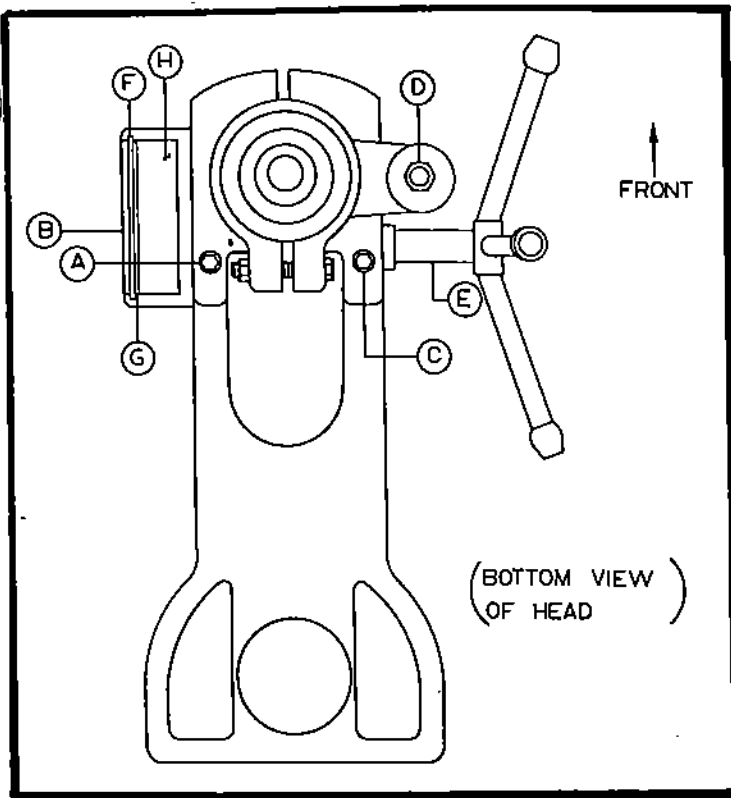

Figure 7
Spring tension for return of spindle, after hole drilling, has been pre-set at the factory. No further adjustment should be attempted unless absolutely necessary. Adjustment will probably be required if a multiple spindle drilling or tapping head is used. If adjustment is necessary, loosen lock screw (A) (Fig. 7) while holding quill spring housing (B). Do not allow the housing to turn in your hand, or spring will unwind. Turn entire housing assembly clockwise the number of turns necessary to cause the quill to return to its up position. (NOTE: The flat of the spring housing pilot is lined up with the spring loading hole on the body of the spring housing.) Reset lock screw (A), make sure point of screw mates to flat on the housing journal.
1. Hold quill return spring housing (B) in left hand (see Fig. 7) and loosen lock screw (A). Let spring unwind slowly, by allowing can to turn in hand.
1. Loosen setscrew in collar (A) to reach this screw, insert a 5/32" Allen wrench through hole (B) in top of quill.
2. With a hard rubber mallet or block of wood, tap spline end of spindle. The spindle, with bearing (C) will come out of quill.
3. Use an arbor press to remove bearing (C).
5. When replacing collar (A), remove all end play from spindle.
7. Remove lock ring (F) and cover plate (G) (Fig. 7) from spring housing and make certain tongue on return spring is properly inserted in slotted end of pinion shaft. Replace cover and adjust spring tension as instructed under heading "QUILL RETURN SPRING ADJUSTMENT".